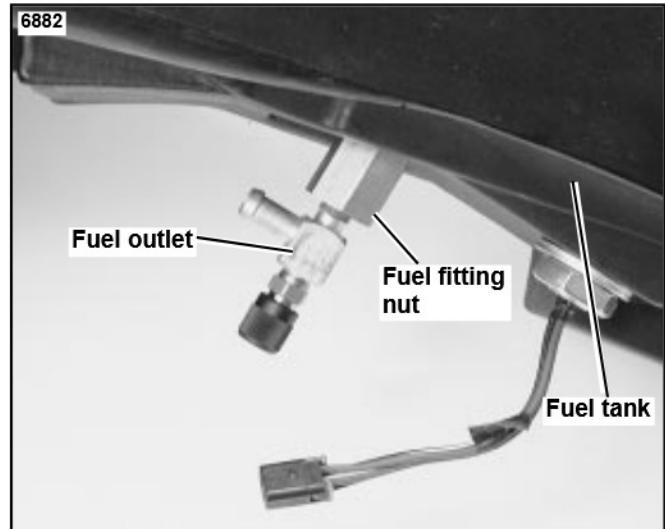

Figure 1. Fuel Outlet Fitting, Original Setup
- See Figure 1. Rotate the fuel outlet approximately 180° by tightening the fuel outlet into the fuel fitting nut, while securely holding the nut. The fitting should point toward the rear of the motorcycle (opposite of the way shown).
9. See Figure 1. Rotate the fuel outlet approximately 180° by tightening the fuel outlet into the fuel fitting nut, while securely holding the nut. The fitting should point toward the rear of the motorcycle (opposite of the way shown).